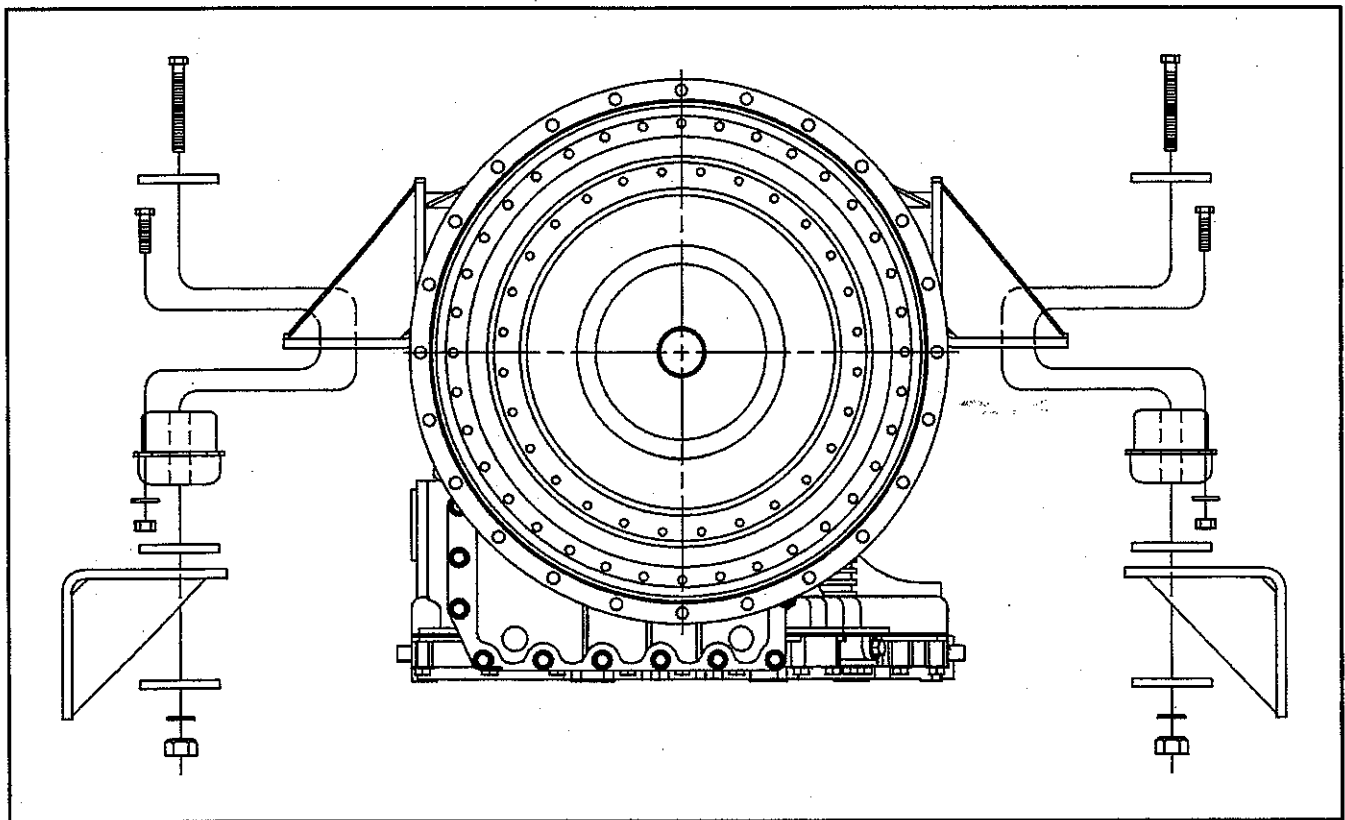

Figure 5—Transmission Mounting Bolts
3. Remove transmission mounting bolts. (See Figure 5—Transmission Mounting Bolts.)